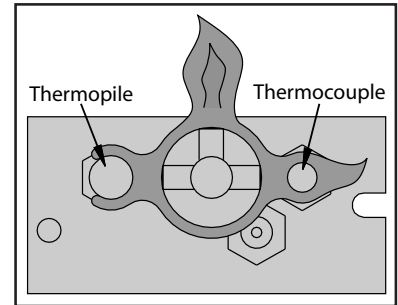

Figure 3: Pilot Flame
1. Turn off the gas to the fireplace. **If not recently done, remove the glass and let the unit air out for at least five (5) minutes to clear out any gas.** Turn on gas to the heater. Leak test all joints with soapy water. **NEVER USE OPEN FLAME FOR LEAK TESTING.**
2. Start the pilot by pressing the gas control knob and turning it to PILOT. While holding the gas control knob in, press the piezo ignitor several times until the pilot light starts. Hold the gas control knob in for 30 seconds. Check that the pilot has fully engulfed the thermocouple assembly (see Figure 3).
**\*NOTE: This appliance is equipped with an on-demand pilot that, if left dormant, will shut down after seven (7) consecutive days.**